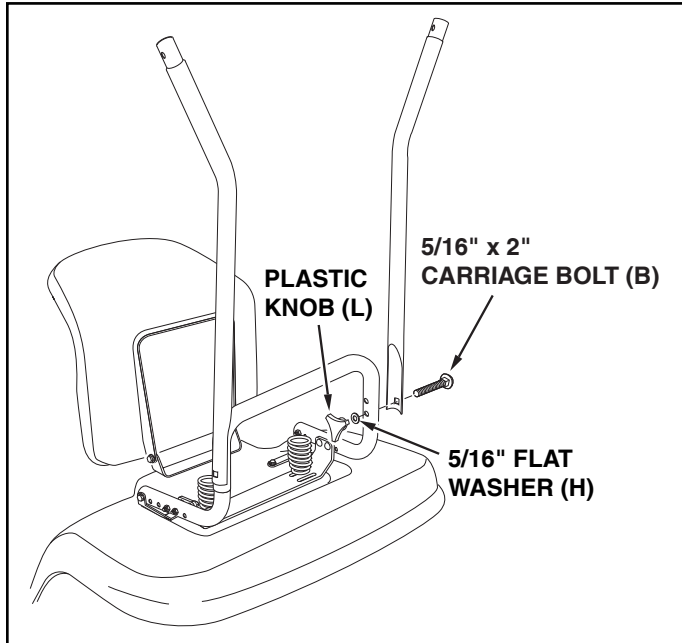

FIGURE 10a
STEP 9: (SEE FIGURE 10a or 10b)
- Assemble the upright tubes to either the top or bottom holes in the base assembly using a 5/16-18 x 2" carriage bolt (B), 5/16" flat washer (H) and plastic knob (L) for each tube. The top and bottom holes provide adjustment for the height of the sunshade.